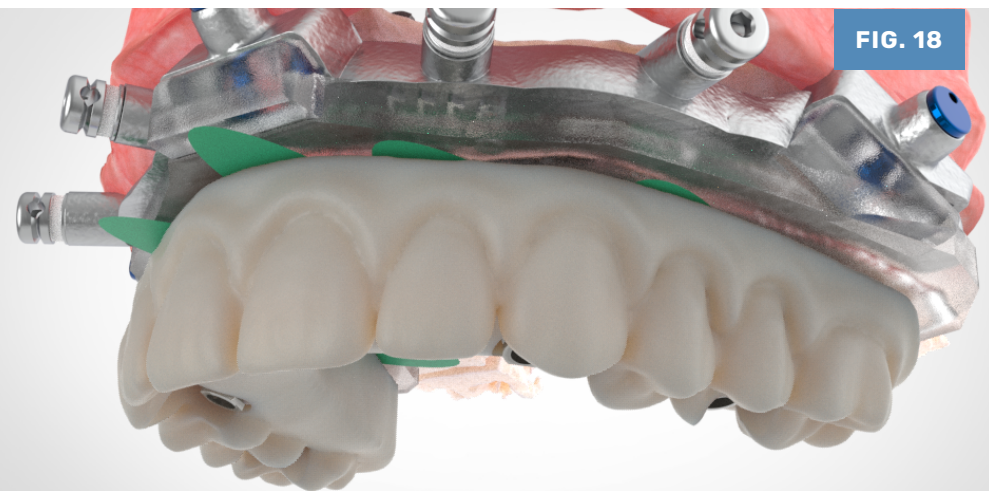

FIG. 18
2. Seat the RAPID Appliance onto the carrier pegs. **(FIG. 18)**